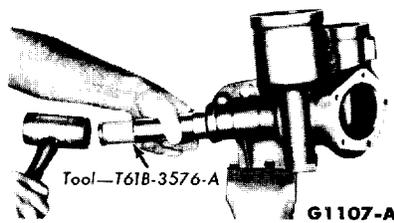

FIG. 21—Lower Bushing Installation
7. Install the lower and the center sector shaft bushings (Fig. 21).